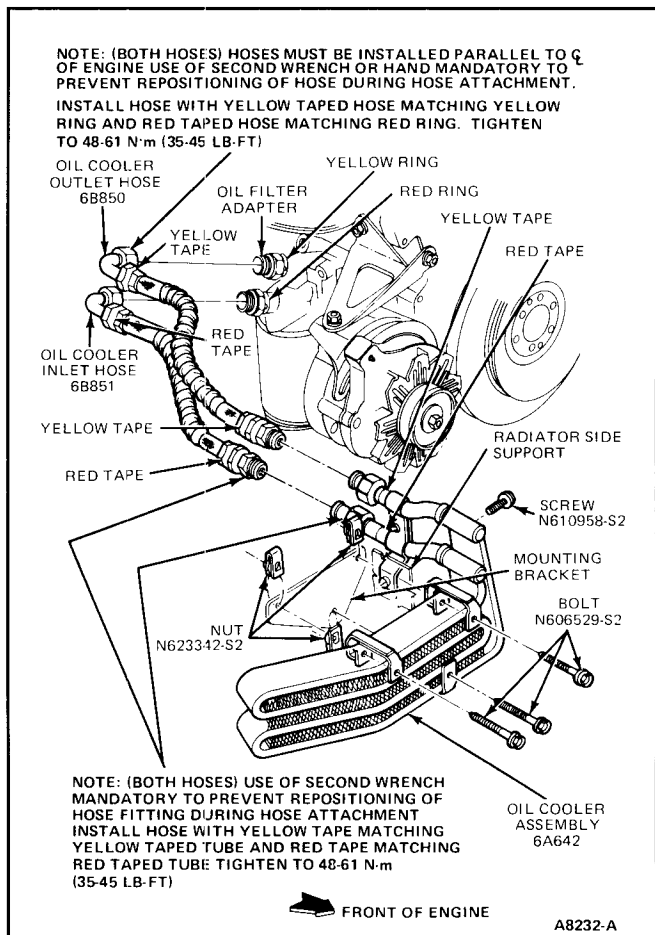

FIG. 50 Oil Cooler Assembly Installation
- Remove and cap oil cooler lines at oil cooler (Fig. 50).
- Remove three bolts retaining oil cooler to mounting bracket (Fig. 50).
- Position oil cooler assembly to vehicle and install four bolts to attach to mounting bracket (Fig. 50).
5. Remove and cap oil cooler lines at filter housing (Fig. 50).
3. Connect oil cooler lines to oil filter housing, (Fig. 50), and tighten fittings to 30-40 N·m (22-29 lb-ft).